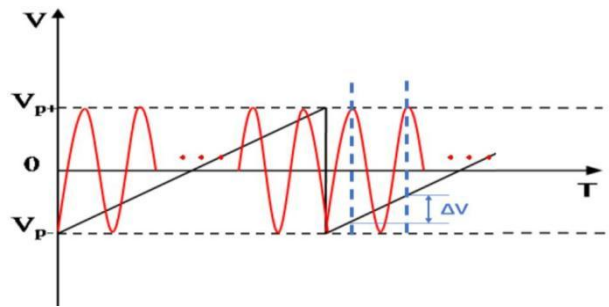

Figure 3-2 Schematic Diagram of the Detector Output Signal
- b) Turn on the light source and signal generator. Apply a sawtooth signal (typical frequency: 50 kHz) to the DUT. The sawtooth peak-to-peak voltage V_{pp} , must be greater than twice the half-wave voltage, so that the detector output (cosine waveform) shows at least one full period, as illustrated in Figure 3-2.